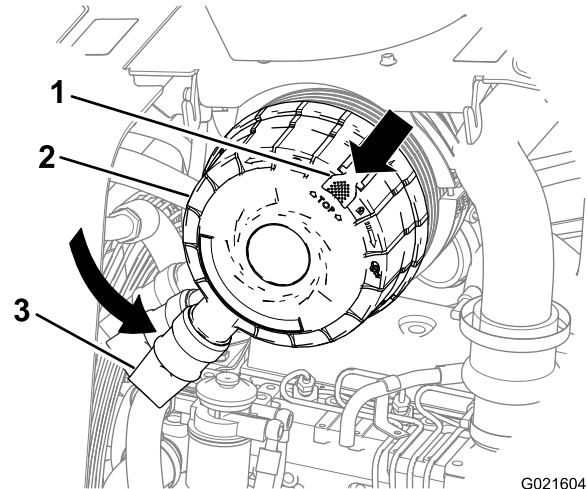

Figure 49
3. Rotate the cleaner cover counterclockwise so that the dust cap is at the 7 o'clock position (Figure 49).